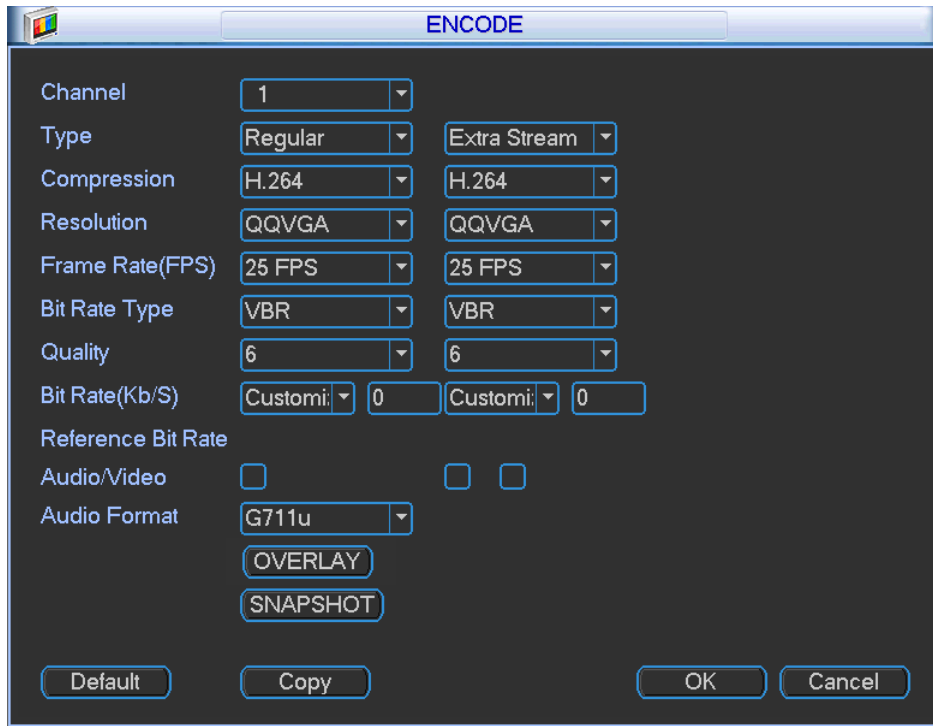
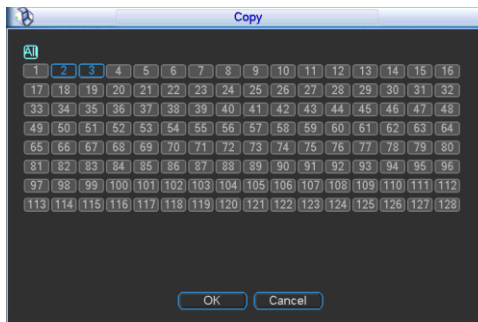
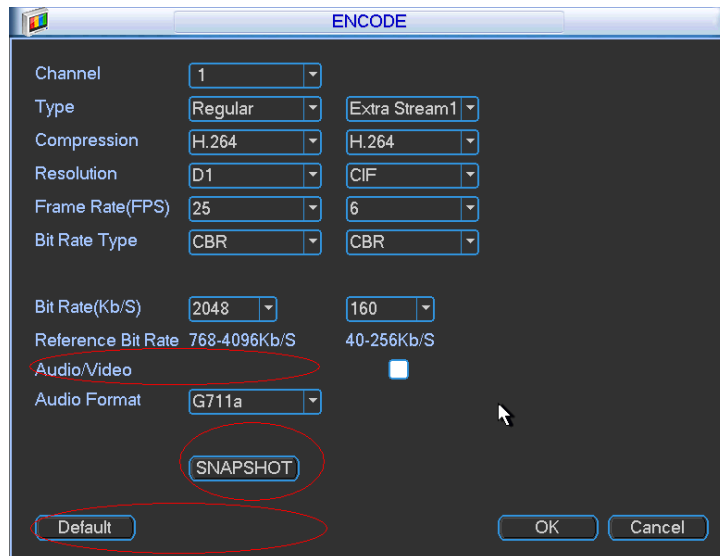

Figure 3-39
Figure 3-42
Figure 3-43
Encode setting includes the following items. See Figure 3-39.
- Copy: **Before the Copy operation, please make sure you selected channel supports current copy contents.** After you complete the setup, you can click Copy button to copy current setup to other channel(s). You can see an interface is shown as in Figure 3-42 (The figure here is based on the 128-channel series product.). You can see current channel number is grey. Please check the number to select the channel or you can check the box ALL. Please click the OK button in Figure 3-42 and Figure 3-39 respectively to complete the setup. Please note, once you check the All box, you set same encode setup for all channels. Audio/video enable box, overlay button and the copy button is shield. See Figure 3-43.